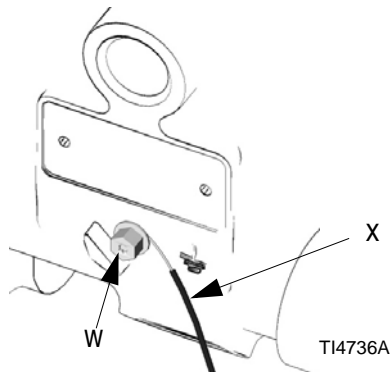

FIG. 2: Ground Wire Connection
- Pump:* Connect a ground wire and clamp as shown in FIG. 2. Loosen the grounding screw (W). Insert one end of a 12 ga (1.5 mm²) minimum ground wire (X) behind the grounding screw and tighten the screw securely. Connect the clamp end of the ground wire to a true earth ground. To order a ground wire and clamp, order part number 819.0157.